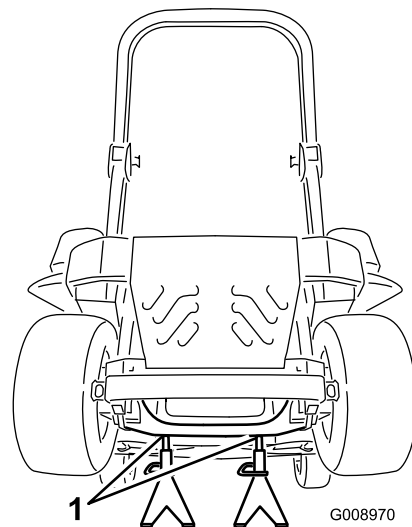

Figure 93
3. Raise the machine and support it with jack stands (Figure 93).
9. Remove the jack stands and lower the machine (Figure 93).